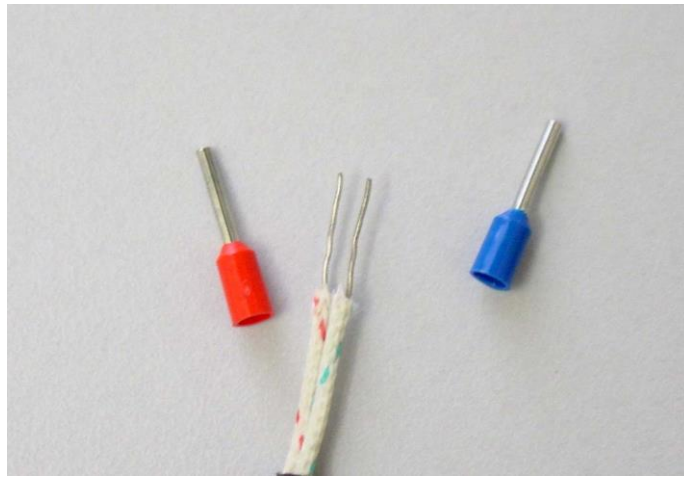

Figure 1. Sensor wires and tube type terminals
- 2) If the sensor wire is less than 20 AWG and multi stranded, strip the insulation by 3/8" (9 mm). Then, insert the wire into the tube type terminal (also known as bootlace ferrules, or European style terminal) provided (shown in figure 1).